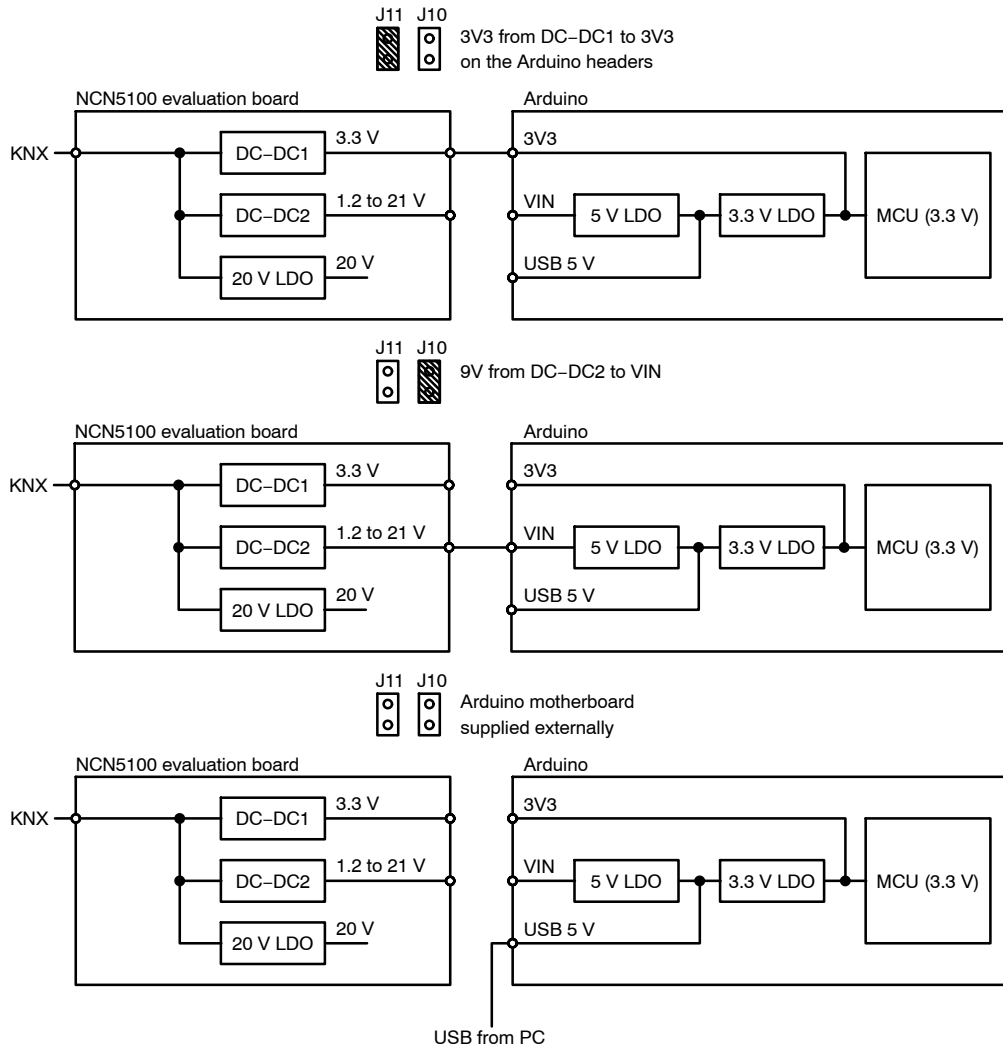

Figure 6. Jumper Settings for the Three Possible Supply Configurations
- Most modern microcontroller development boards can be supplied through the 3V3-pin, this eliminates the need for additional LDO’s, and lowers the overall power consumption. On the shield, there is always a 3.3 V supply present, which is also used to supply the KNX transceiver. This supply voltage can be routed to the 3V3-pin on the Arduino headers by shorting J11 (Figure 6).
- Arduino-compatible development boards typically accept a supply voltage of 7 V to 12 V, either through the on-board DC-jack (if present) or the VIN-pin on the headers. The shield can supply the microcontroller through the VIN-pin. When J10 is shorted (see Figure 6), the 9 V generated by DC-DC2 is routed to the VIN-pin. In this configuration, the whole system is supplied through the KNX-bus and no additional power supplies are required.
- The microcontroller development board may be supplied through an external supply. This occurs when debugging the board through USB with the KNX-connector disconnected. In this case remove both J10 and J11 (Figure 6).
The transceiver's 20 V LDO and DC-DC2 converter can be used to power additional circuitry, e.g. a relay. When additional shields are stacked, which take their power from the VIN-pin, these can be powered by connecting DC-DC2 to the VIN-pin. This can easily be done by placing J10 as shown in Figure 6.